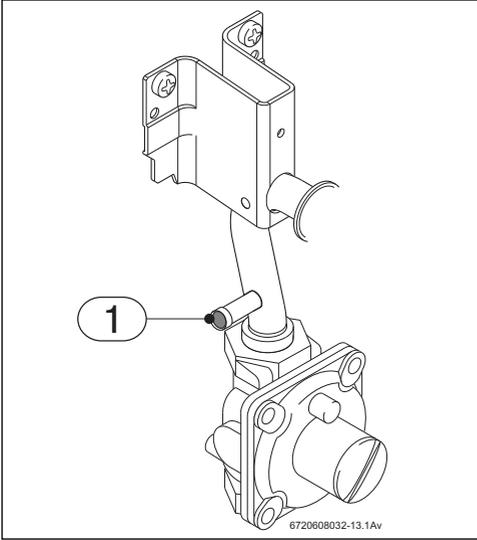

Fig. 14 Gas pressure measuring point
The gas supply piping should be sized according to the applicable code for a maximum draw of 117,000 BTUH. Measure the length of gas supply line and use the tables in Fig. 14 or the gas line manufacturer’s sizing tables to determine the pipe diameter necessary to accommodate the BTU demand of the unit. If there are more gas appliances drawing on the same line, size the gas line according to the total maximum amount of BTU draw for all appliances.
- ▶ Remove front cover and locate inlet gas pressure measuring point on the left side, see Fig. 14.